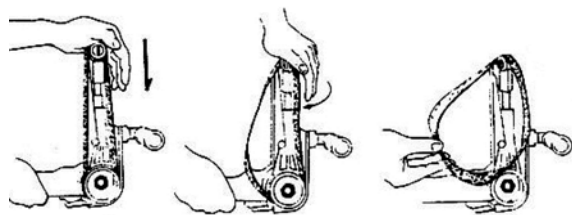

Figure 7
3. Grab handle with the left hand. Push down on the idle pulley assembly and turn 1/8 of a full turn clockwise to lock in place. See sequence in Figure 7.